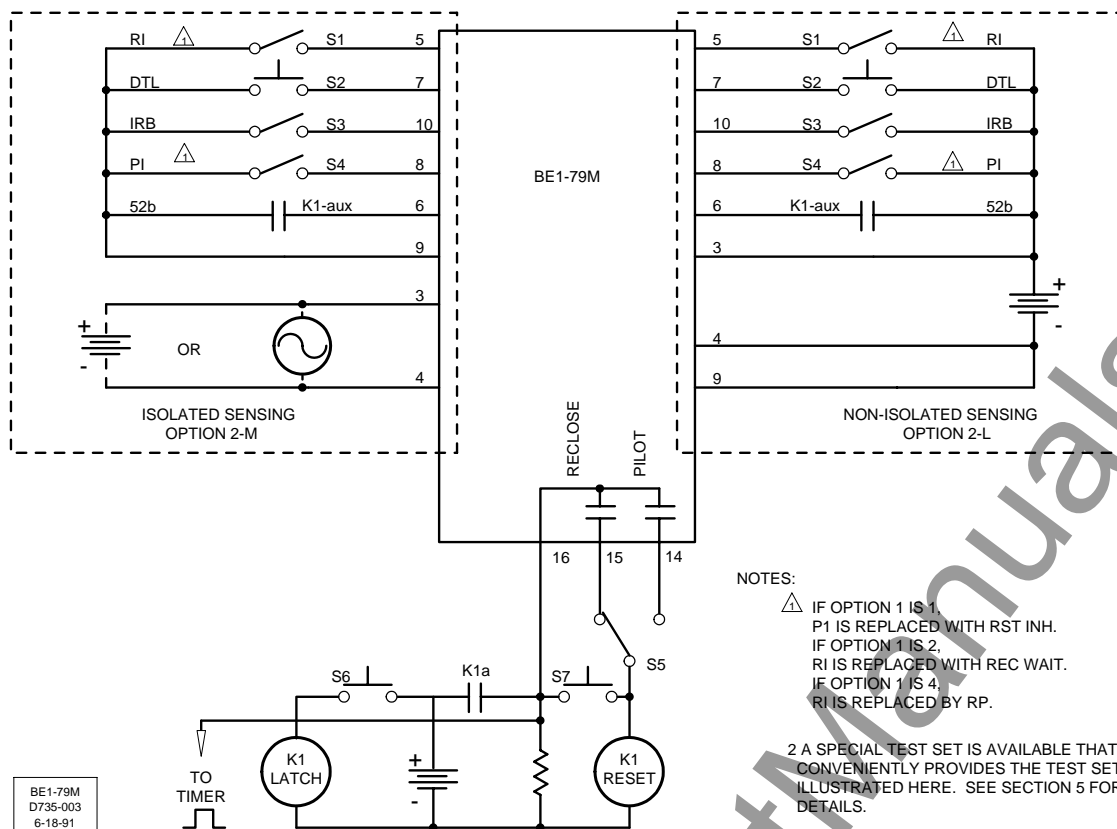

Figure 5-1. Operational Test Setup
Minimum test equipment required for relay testing and adjustment is listed below. Refer to figure 5-1 for the test setup.
STEP 1. Connect the circuit as shown in Figure 5-1. K1 is a latching relay with a set of Form B auxiliary contacts to simulate a controlled breaker. If the Pilot Initiate option is not present, S4 and the connections to terminals 8 and 14 are not needed.